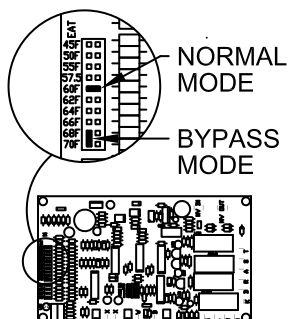

Figure 1
- a. **On EDSM and EDSM/TP control systems,** if the remote control station hasn't been tested and the ambient temperature is at or above the Entering Air Thermostat (EAT) set point, note the set point position and pull the jumper off the temperature set point (EAT Enabled Mode) and reinstall it sideways on the terminal block (Bypass Mode) as shown in Figure 1. Refer to the Individual Component Description section for additional information.